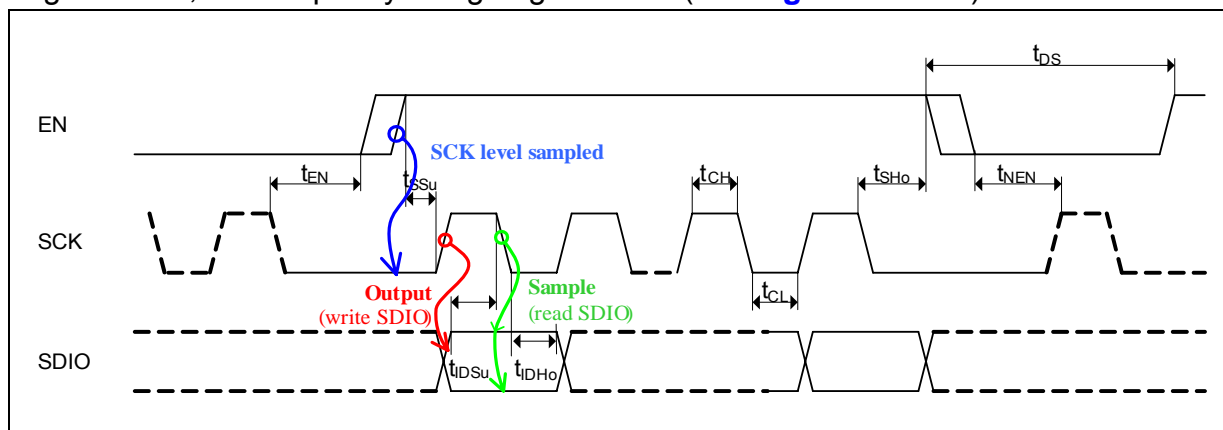
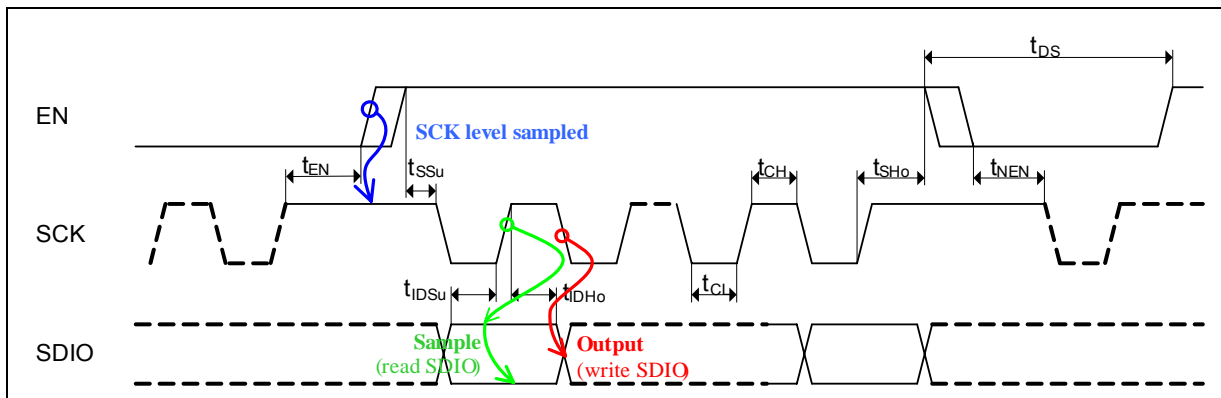

Figure 6 SPI Timing — SCK low at rising edge of EN
Figure 7 SPI Timing — SCK high at rising edge of EN
- **EN** - **enable input** with embedded pull-down resistor. High level on EN input enables the SPI transmission. The rising edge of the EN signal triggers the selection of the active SCK edge (for the consequent data transfer, until the EN line goes again in low state) and transmission/ sampling of data between the device and the microcontroller can start. For details refer to Figure 6 and Figure 7.
- SCK** - clock input pin with embedded pull-down resistor. If SCK is at low level while EN goes high, the incoming SDIO data is sampled by falling edge of the SCK and the output SDIO data is set by the rising edge of SCK. Contrariwise, If SCK is at high level when EN goes high, the SDIO data is sampled with the rising edge of the SCK clock and output on SDIO by falling edge of the SCK clock. For details refer to Figure 6 and Figure 7.
If SCK is low at that moment, the incoming SDIO data will be sampled with the falling edge of SCK, and output by rising edge of SCK (see Figure 6 below)..
If SCK is high during occurrence of rising edge on EN, incoming SDIO data is sampled with the rising edge on SCK, and output by falling edge of SCK, as illustrated in Figure 7.